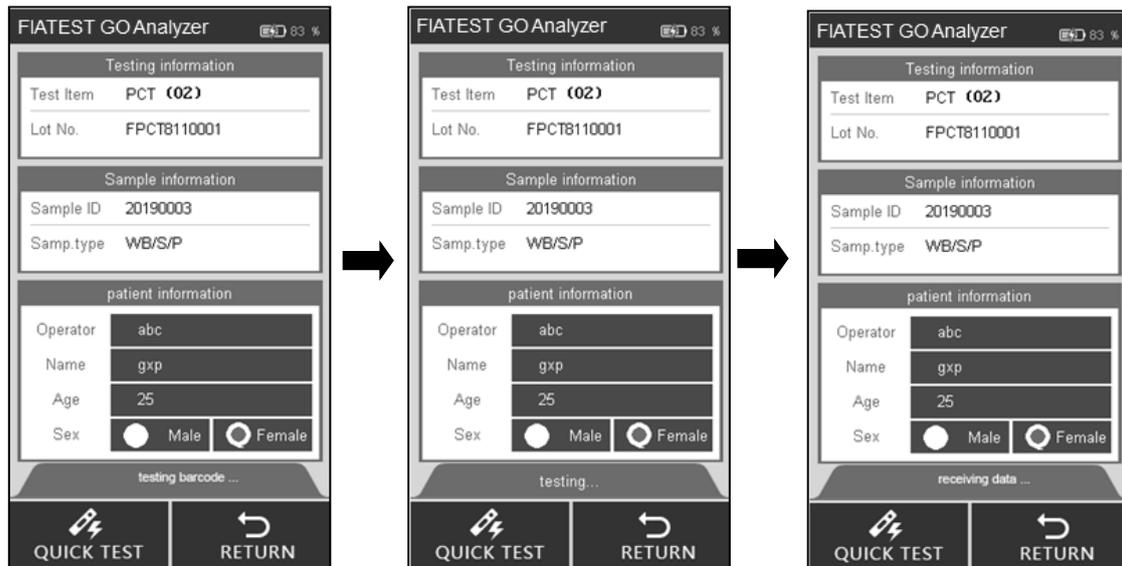

Fig 33
Step 7: Insert test cassette (after incubation) into the slot and click “**Quick TEST**” or press the Home Button. (Ref Fig 33)